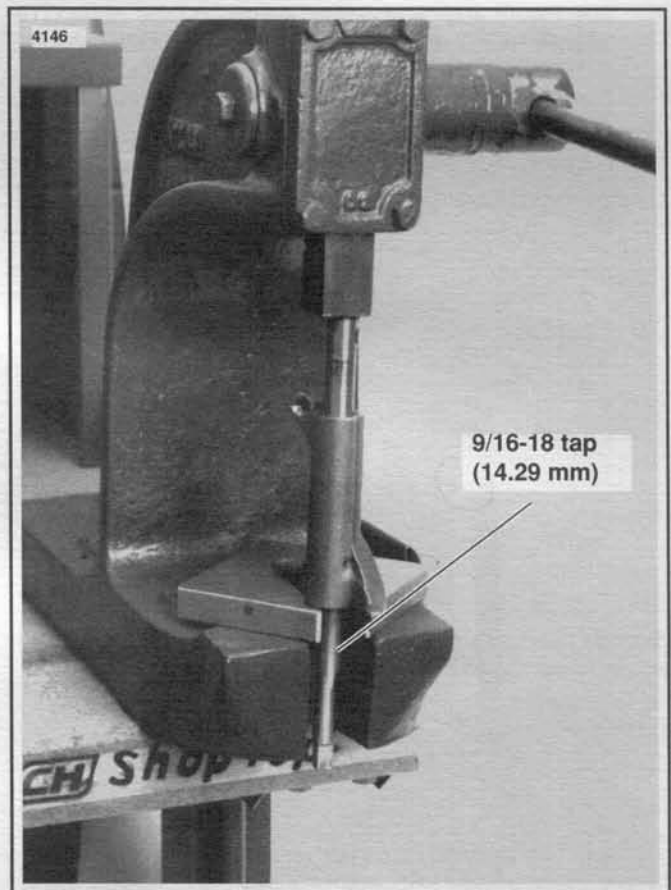

Figure 3-24. Remove Rocker Arm Bushing
2. See Figure 3-24. To replace worn bushings, press them from the rocker arm one at a time. If bushing is difficult to remove, turn a 9/16-18 tap into bushing. From opposite side of rocker arm, press out bushing and tap.